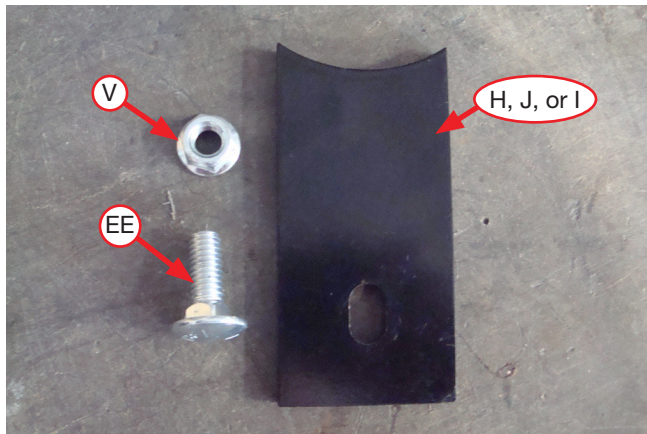
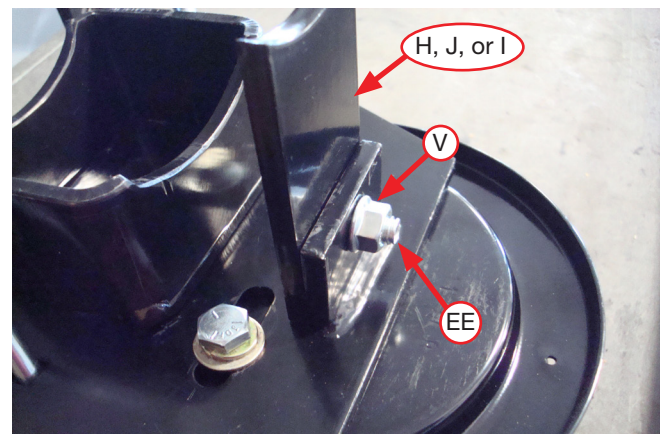

Fig. 15
Fig. 16
- Select the appropriate lower leg adapter (H, J, I) for your vehicle, as shown in Table 1. Attach the appropriate adapter with a 3/8"-16 x 1" carriage bolt (EE) and 3/8" serrated flange lock nut (V) (Fig. 15). Install as shown (Fig. 16). Push adapter against the lower bracket and torque the hardware to 16 lb.-ft. (14Nm).